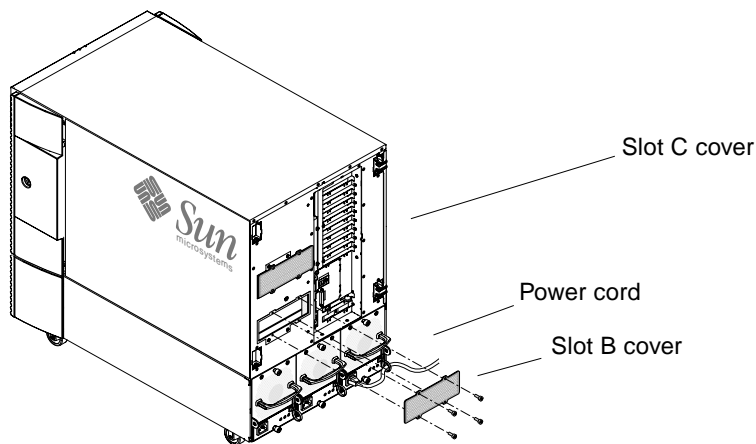

FIGURE 4-1 Sun Fire V880z Server Back Panel Covers for Slots B and C
3. Remove the system back panel covers for the slots to be used for the Sun XVR-4000 graphics accelerator (FIGURE 4-1).
11. Replace the system back panel covers for the slots used for the Sun XVR-4000 graphics accelerator (FIGURE 4-1).